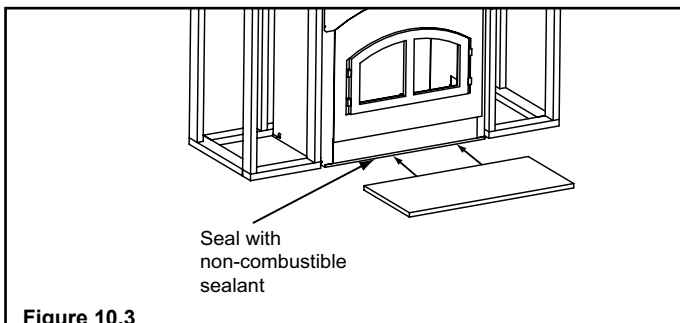

Figure 10.3
- The non-combustible Super Calstick may be used for sealing between the fireplace and the hearth extension. Refer to Figure 10.3.